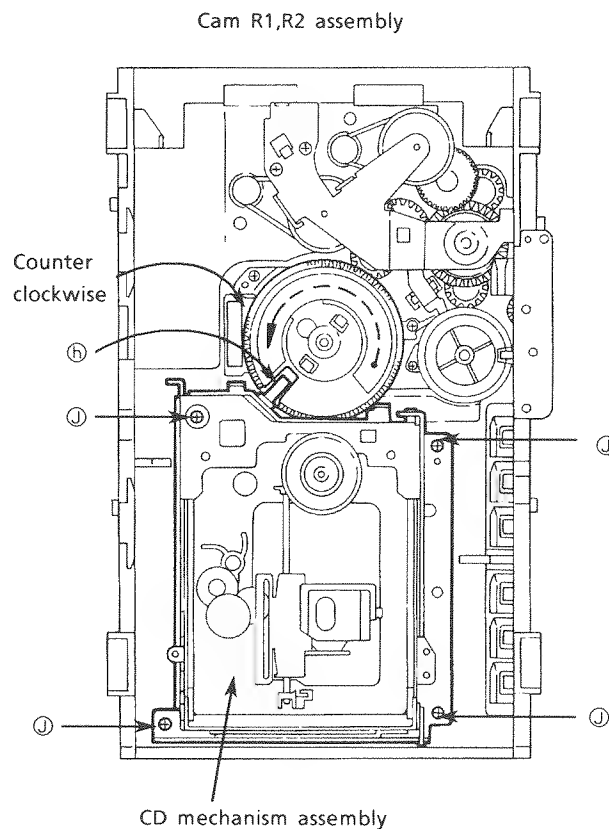

Fig. 36
2. Rotate the Cam R1, R2 ass'y counterclockwise so that CD mech. ass'y's shaft (h) is positioned as shown in Fig. 36.
3. Remove 4 screws (i) securing CD mech. ass'y. (See Fig. 36.)